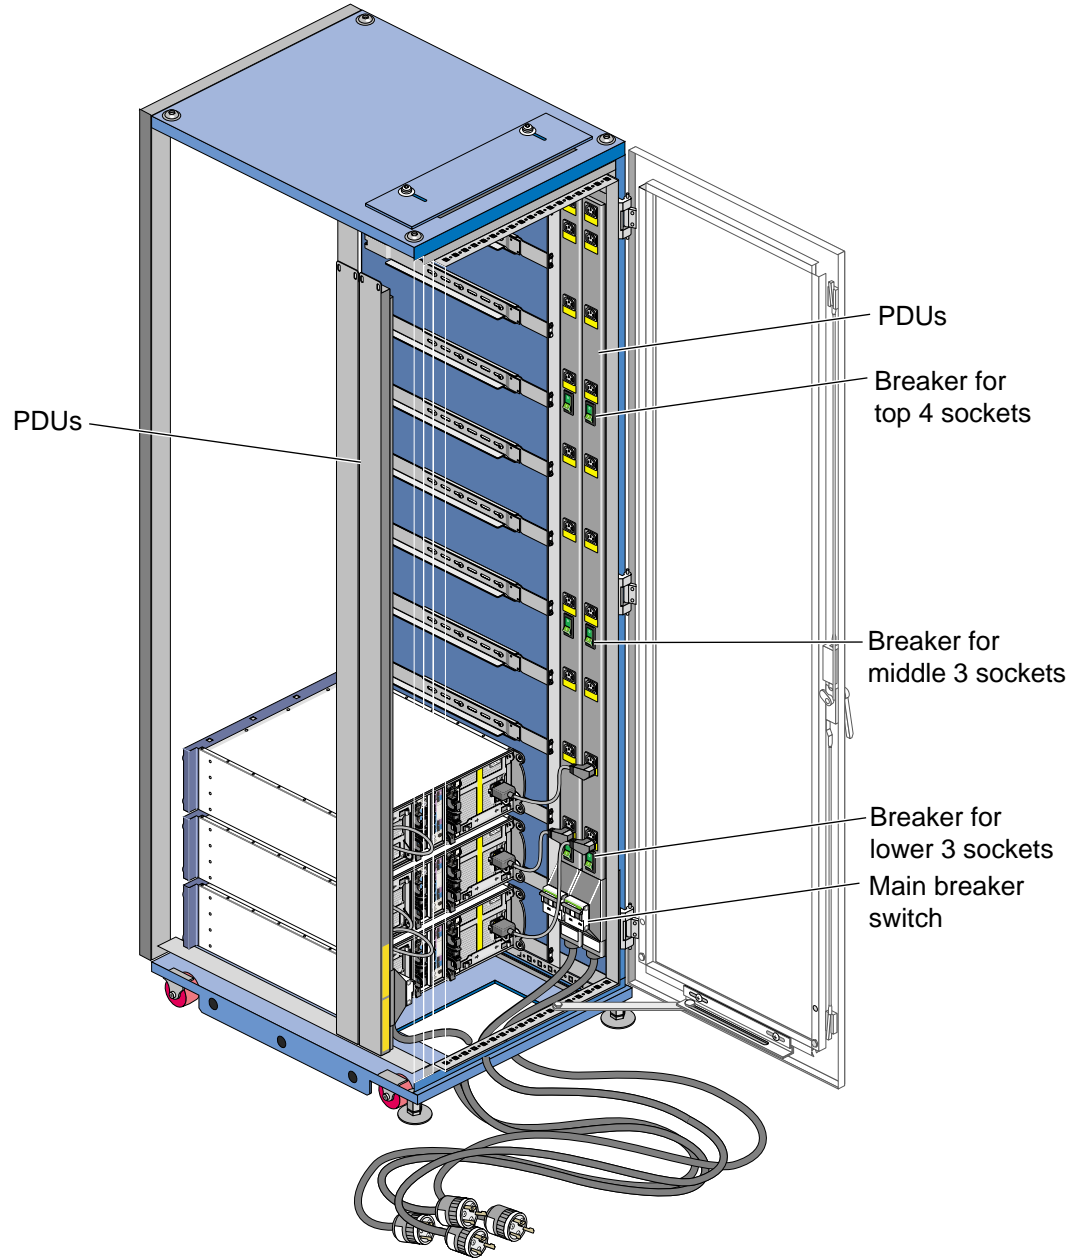

Figure 2-3 Rack Power Cabling
The rack requires 220 V and is shipped with a country-specific power cord for each power distribution unit (PDU) that the rack contains. Each power supply of each enclosure in the rack is cabled to the rack PDU on the appropriate side; Figure 2-3 shows an example.
3. If they have not already been connected, connect each PDU power cord to a power source. The PDU power cords can be routed through an opening at the top or the bottom of the rack. See Figure 2-3.
Besides the main breaker switch at the bottom of each PDU, the rack PDUs have breaker switches at each 12U of space so that you can power off the enclosures in groups of four and leave the others powered on. Figure 2-3 shows their locations.